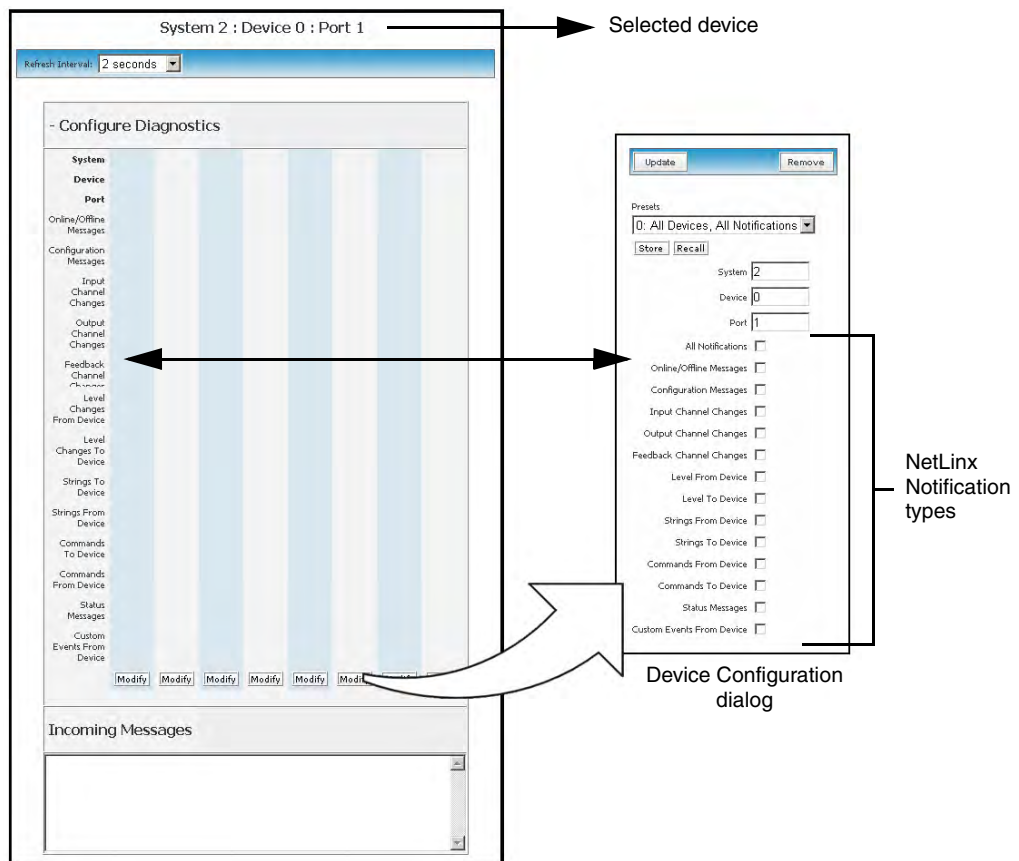

FIG. 61 Diagnostics dialog (showing modify popup)
3. Click the **Diagnostics** button to open the Diagnostics dialog (FIG. 61).